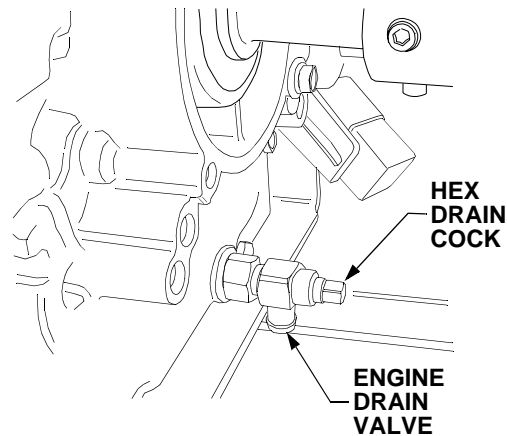

Figure 56
- Locate the engine drain valve on the rear of the engine (See Figure 56). Place a suitable container below the open end of the drain valve to collect the old oil.
- Turn the valve drain cock fully clockwise to close the valve, and clean any residual oil from the valve. Refer to Figure 56.